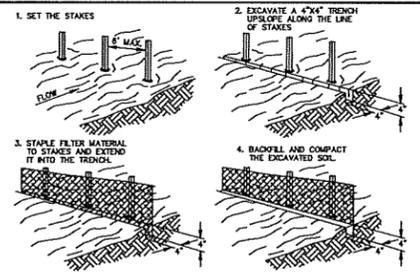

FIGURE 7
- At any time both during and after-site construction that watering and/or vegetation are not effective in controlling wind erosion and/or transport of fugitive dust, other methods as are necessary for such control shall be employed. These methods may include erection of dust control fences. If required, dust control fences shall be constructed in accordance with the detail for a silt fence shown in Figure 7 except the minimum height shall be 4 feet.